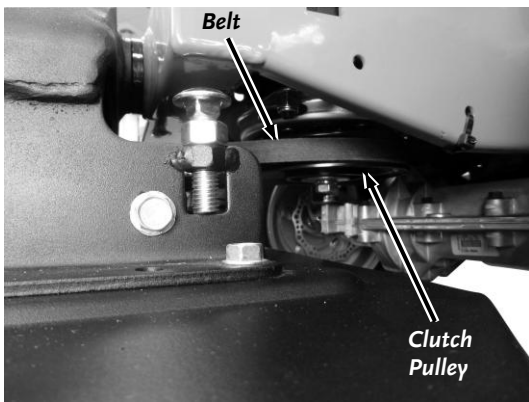

Figure 27
4. Push the belt in toward the Power Unit and the belt will fall off the Clutch Pulley (**Figure 27**).